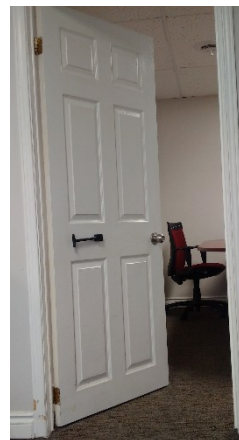

Figure 2
- Make sure the T-Pull Door Closer is placed so you can reach it from where you're likely to be positioned when closing the door (see Figure 2).